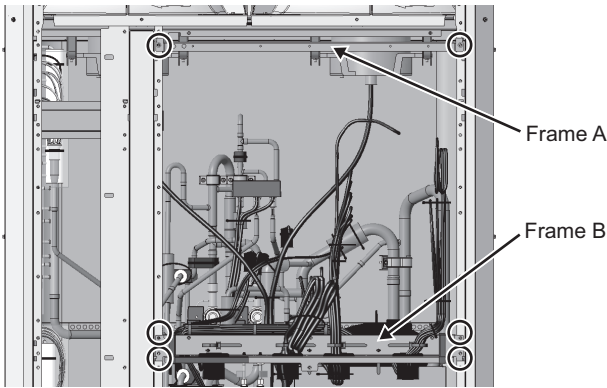

Fig. 57
(4) Remove the wires that are secured to frame B and remove frames A and B. (Six screws: Fig. 57)